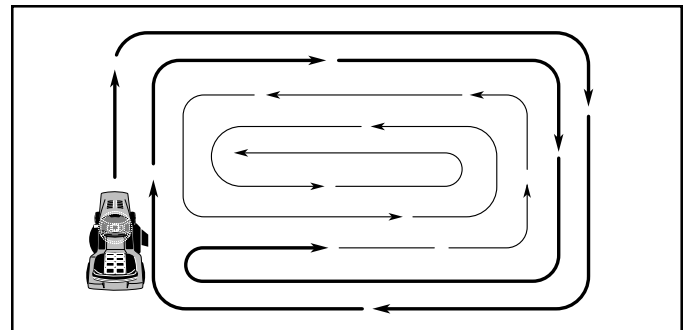

FIG. 11
- When mowing large areas, start by turning to the right so that clippings will discharge away from shrubs, fences, driveways, etc. After one or two rounds, mow in the opposite direction making left hand turns until finished (See Fig. 11 ).